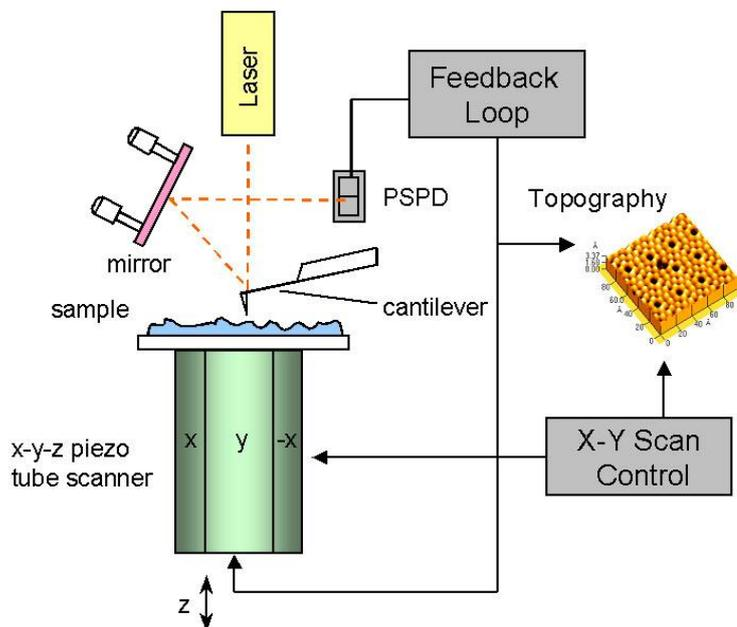

Figure 1-1. Diagram of Conventional AFM's Scanning
Figure 1-1 displays the basic configuration for most AFMs. This scanning AFM is typically used to measure a wide variety of samples, which have a relatively small roughness.
1. In general, the scanners used in AFMs are piezoelectric ceramic tubes (Figure 1-1). Due to the non-linearity and hysteresis of piezoelectric materials, this may result in measurement errors as shown in Figure 1-2.